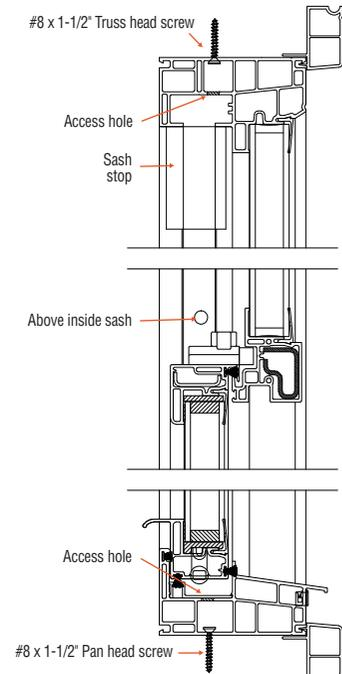

fig. 28
f. Drill holes centered in the interior top pocket. (fig. 28)